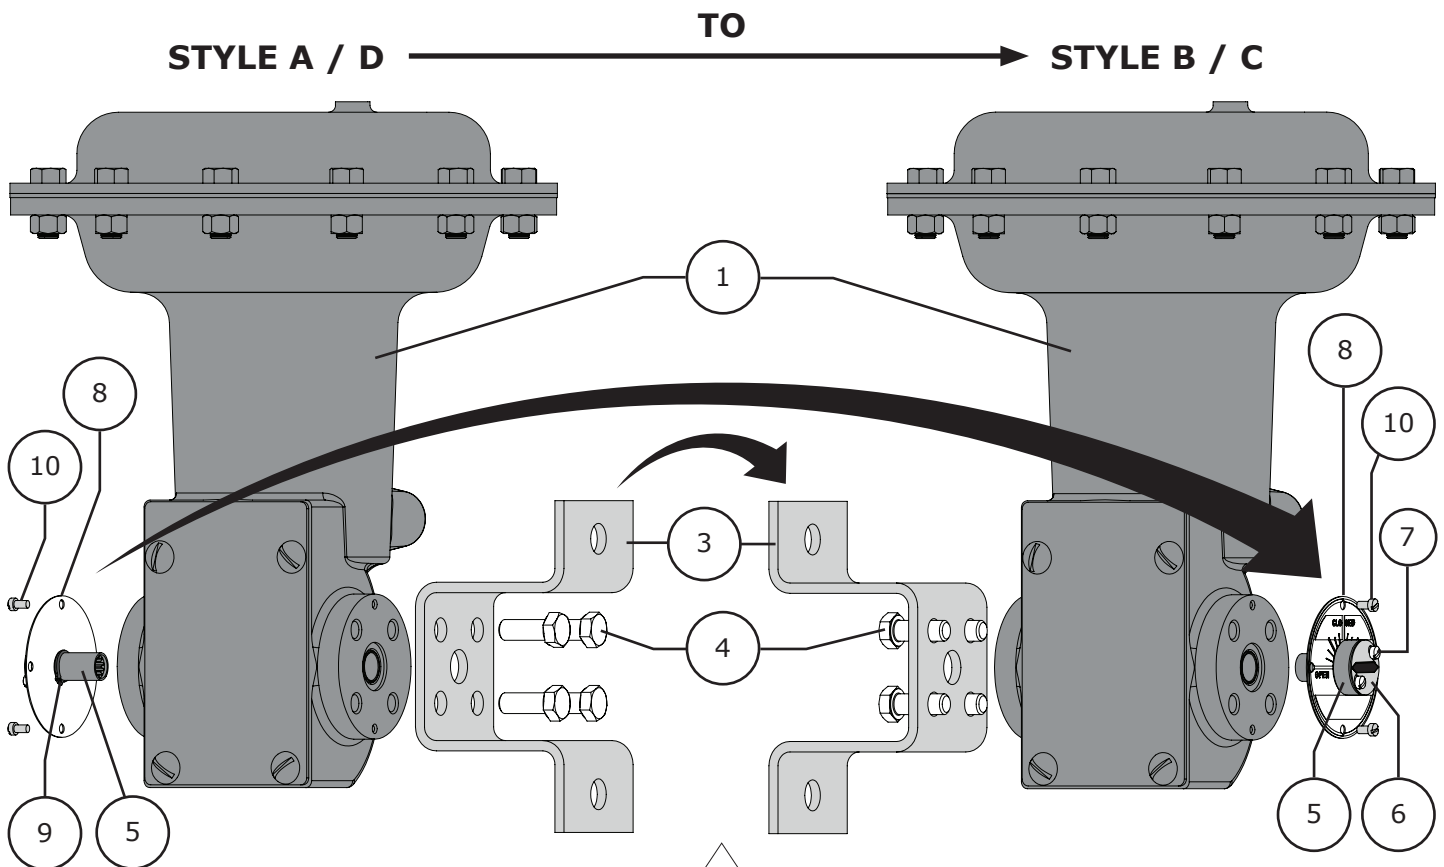

Figure 9 Changing Actuator Style
Refer to Figure 9.
- 3 Swap the position of the travel scale/hub assembly (Keys 5, 6, 7, 8, & 9) and mounting yoke (Key 3) as shown in Figure 9. Install the travel scale/hub assembly on the opposite side of the actuator using the machine screws (Key 10).